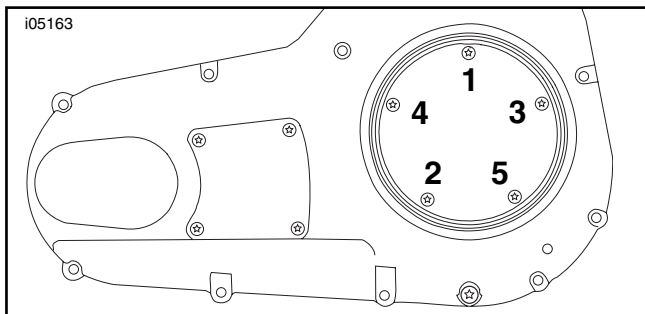

Figure 11. Torque Sequence, Primary Chaincase Cover
3. See Figure 11. Tighten the derby cover screws, in the sequence shown, to 84-108 **in-lbs** (10-12 Nm).